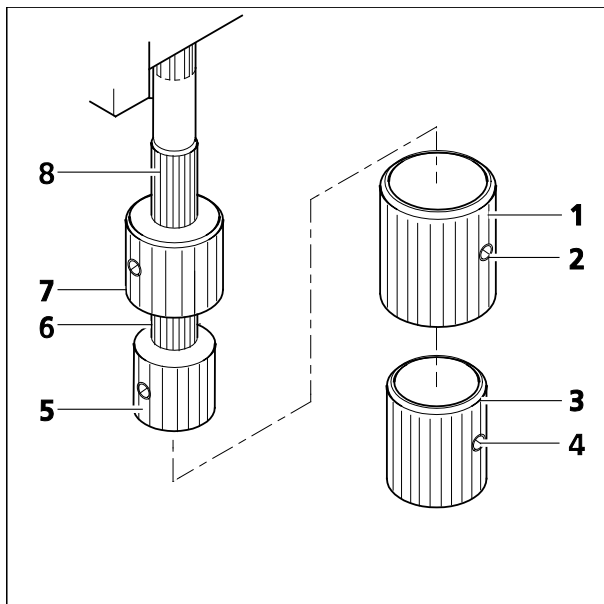

Figure 3-15 Setting the ergonomic drive
- First unscrew the two clamping screws (Figure 3-15/4) of the lower additional sleeve (Figure 3-15/3), and pull it off downwards, then unscrew the two clamping screws (Figure 3-15/2) of the upper additional sleeve (Figure 3-15/1), and also pull it off downwards.
- Remove the additional sleeves (Figure 3-15/1 and 3) from the pinion knobs, if any. To do so, unscrew the clamping screws.
- Slide the X pinion knob (Figure 3-15/5), and slide the Y pinion knob upwards (Figure 3-15/7).
- Hold the X pinion knob (Figure 3-15/5) in position, and turn the light-colored knurled ring (Figure 3-15/6) located above either to the right (easy) or to the left (heavy) until the desired easy motion is obtained.
- Hold the Y pinion knob (Figure 3-15/7) in position, and turn the light-colored knurled sleeve (Figure 3-15/8) located above either to the right (easy) or to the left (heavy) until the desired easy motion is obtained.